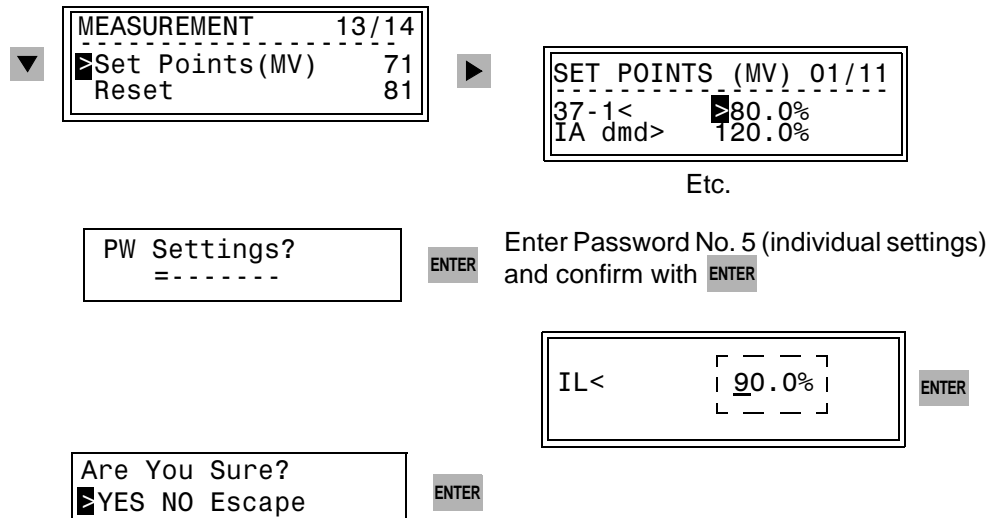

Figure 7-25 Setting Limit Values at the Front Cap — Example
There, select the menu item **Set Points (MV)** with the **▼** key, and switch to the list of limit values using the **▶** key (see Figure 7-25).
Upon leaving this level using the **◀** or **MENU** keys, the safety inquiry “Are you sure?” appears, with the default answer “Yes” (Figure 7-25). Confirm with the **ENTER** key if the value should become effective. If a change to the value is not desired, press the **▶** key so that the answer “No” is marked, and confirm this with the **ENTER** key. To correct the value, mark “Escape”, confirm this with the **ENTER** key, and enter the value again